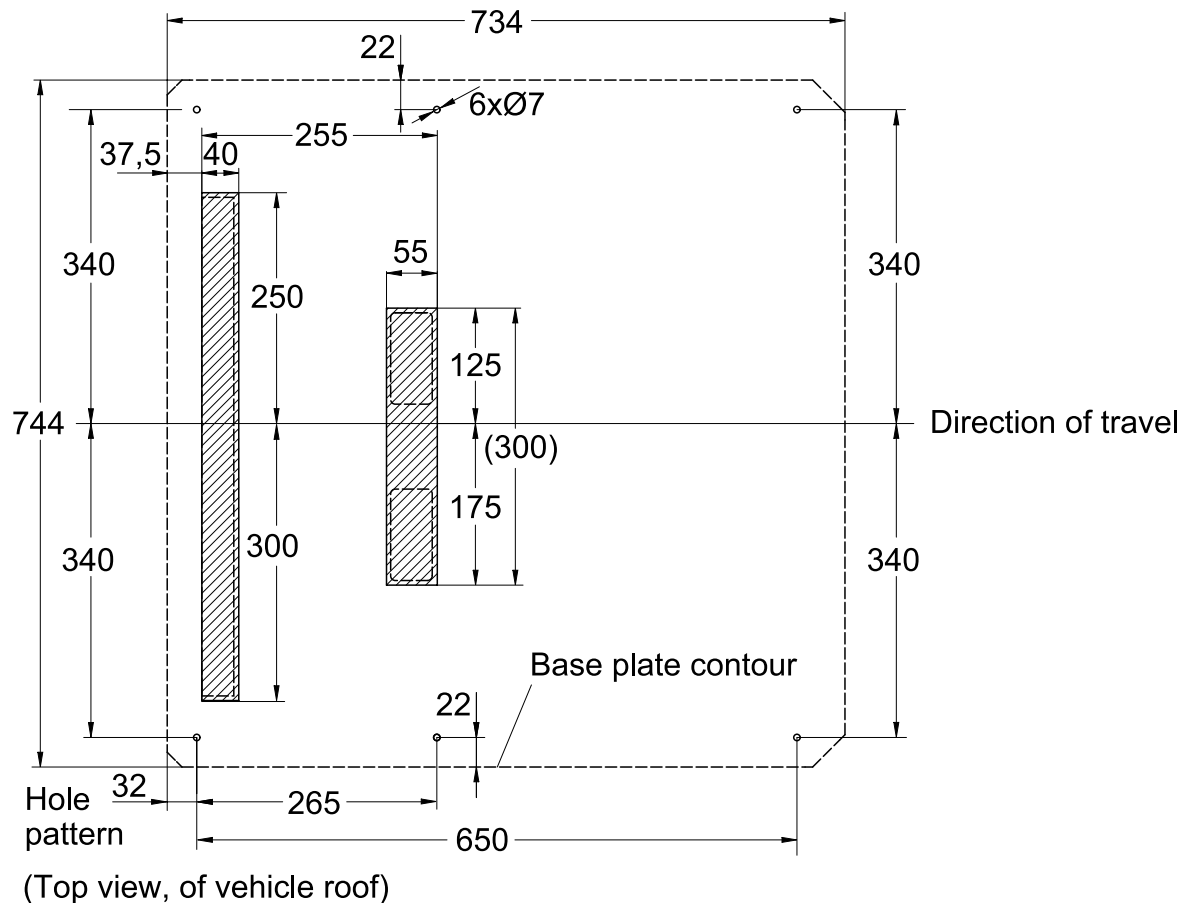

Fig. 4.1
- Fig. 4.1 shows the installation dimensions and the mounting hole pattern for the roof-top unit. The cut-outs for the air intake and discharge openings are off-centre in the base plate.
- Sketch the air duct cut-outs (hatched areas in Fig. 4.1) on the roof and cut them out.